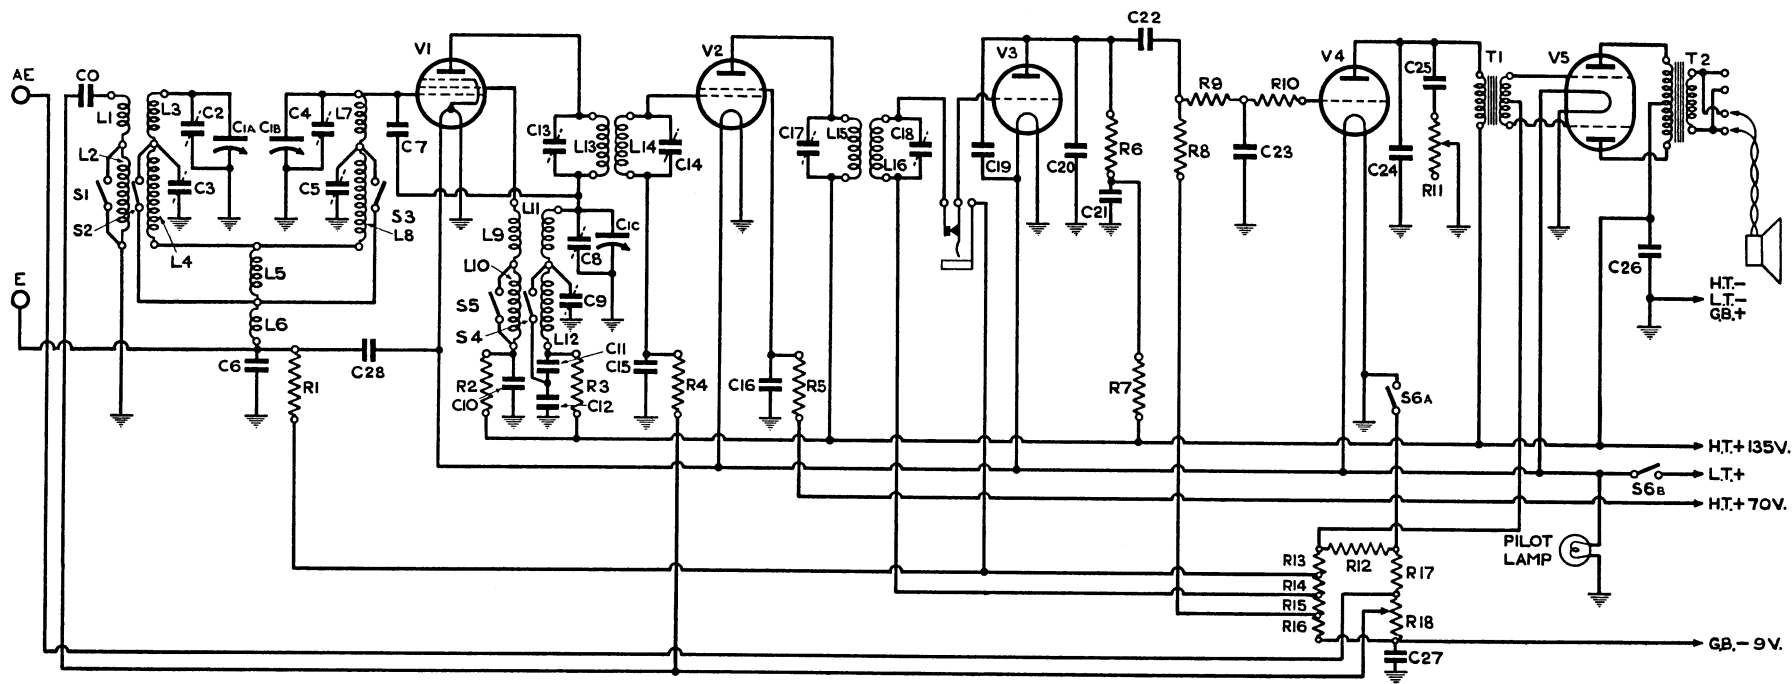
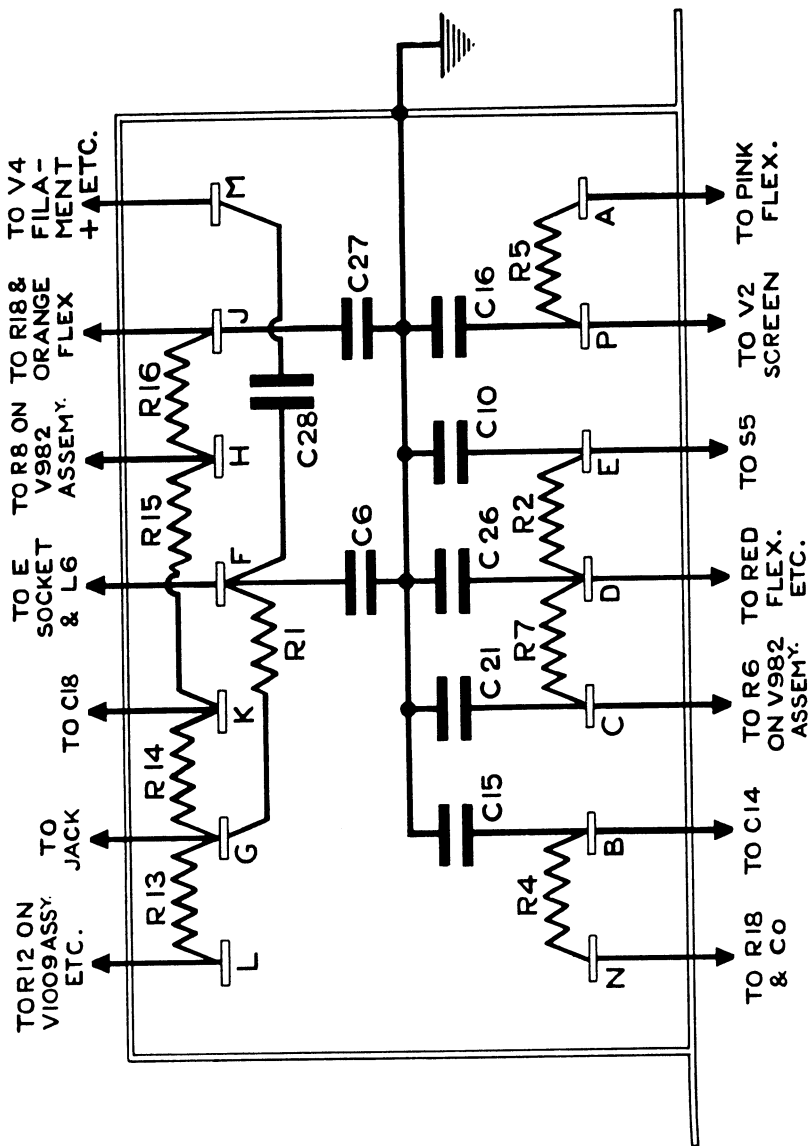

FIG. 1
FIG. 4
The Murphy B5 is a 5 valve battery set working on the supersonic heterodyne principle, and employing Class B amplification. The accompanying schematic diagram (fig. 1 page 8) shows the circuit.
W.956. This is a block of eight condensers and nine resistors. Fig.4 shows how it is arranged, looking at the left side where the tags show. The numbers on the condensers and resistors show where they are in the circuit, by referring to the schematic (Fig.1).